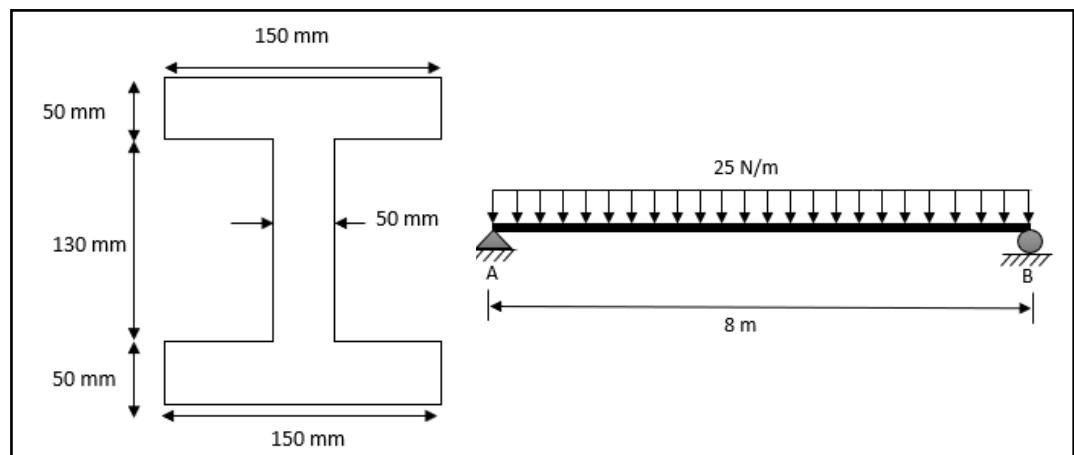

Figure Q2(a) / Rajah S2(a)
- (a) A symmetrical I-section beams as shown in **Figure Q2(a)** is carrying an uniformly distributed load 25 N/m along the span. Identify the centroid and maximum moment for the beam.
- (b) Based on **Figure Q2(a)**, analyze the bending stress for the beam cross section.